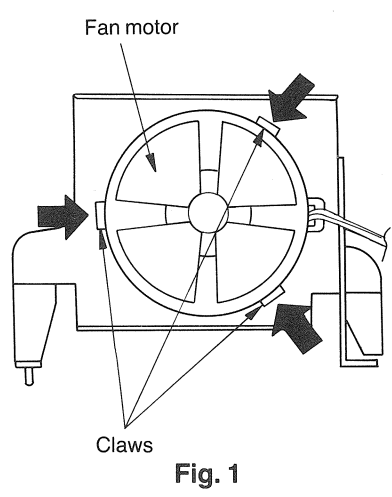

Fig. 1
1. Release the 3 claws (shown in Fig. 1).